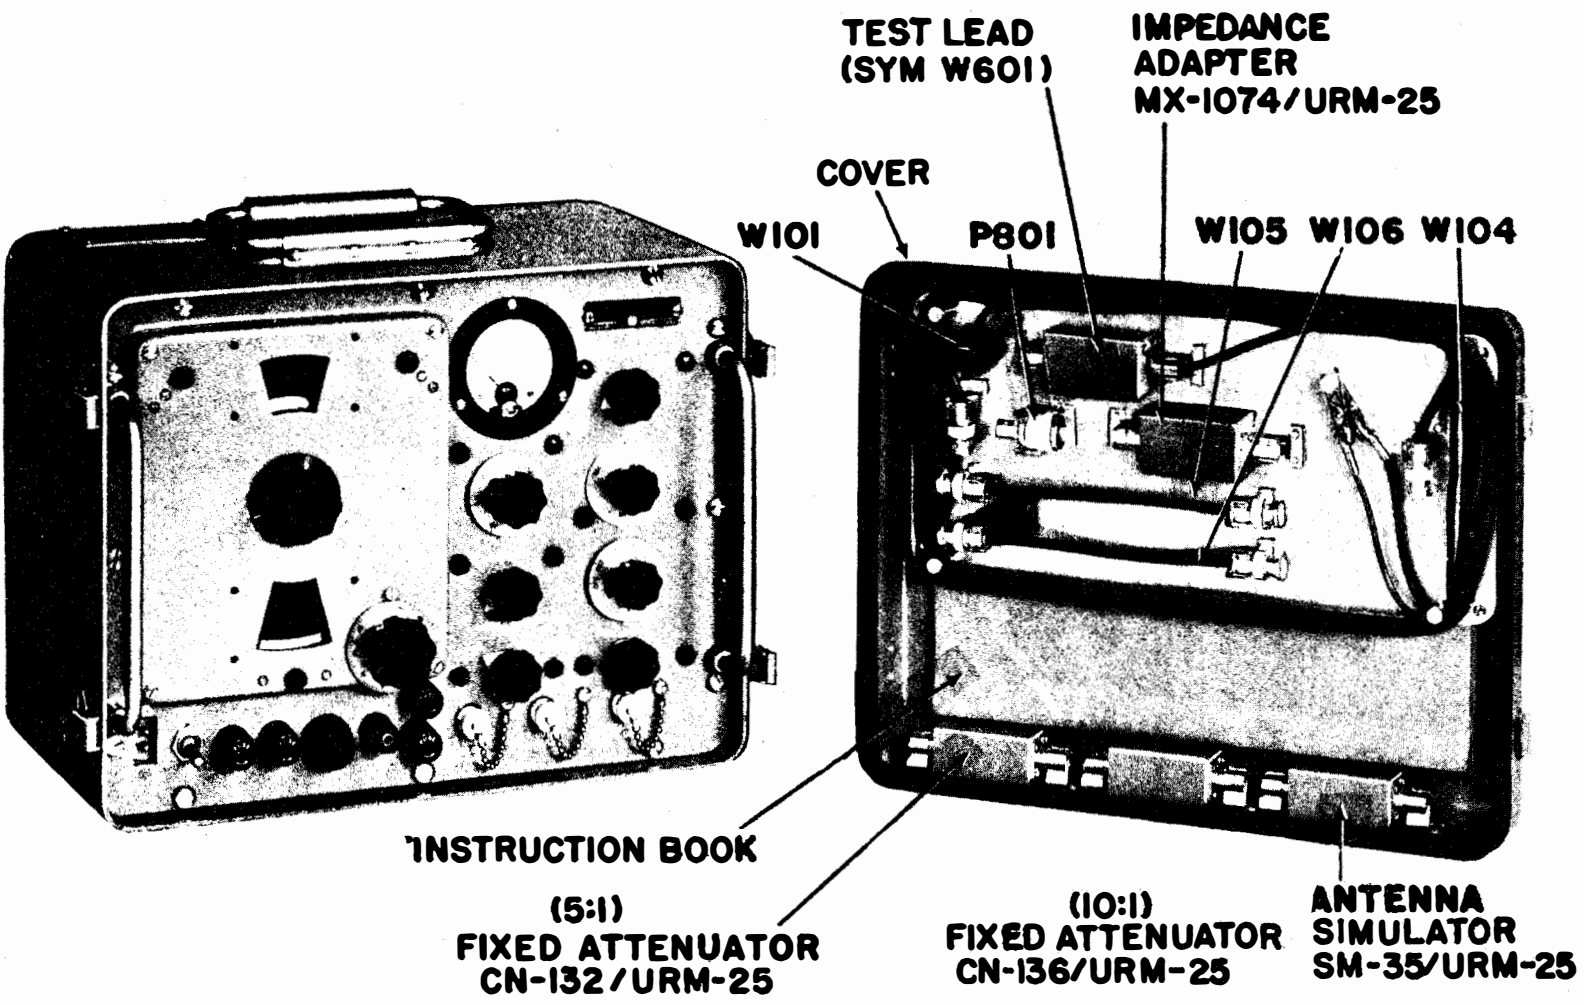

Figure 1-1. RF Signal Generator Set AN/URM-25, Complete Equipment
b. All units including the power supply, are incorporated in a single portable cabinet (See figure 1-1). The units supplied with their corresponding weights are shown in Table 1-1.
- (1) RF Signal Generator SG-44/URM-25
- (2) Power Supply PP-562/URM-25
- (3) Impedance Adapter MX-1074/URM-25
- (4) Antenna Simulator SM-35/URM-25
- (5) (5:1) Fixed Attenuator CN-132/URM-25
- (6) (10:1) Fixed Attenuator CN-136/URM-25
- (7) Test Lead CX-1363/U
- (8) RF Cable Assembly CG-409/U (4'0")